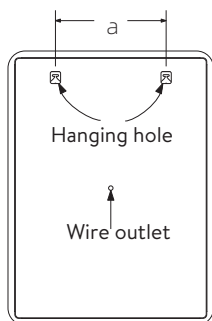

Fig. 1
1. Make certain the wall is solid, and use the flexible rule to measure the distance between two hardy holes on the mirror frame ("a" in Fig. 1).